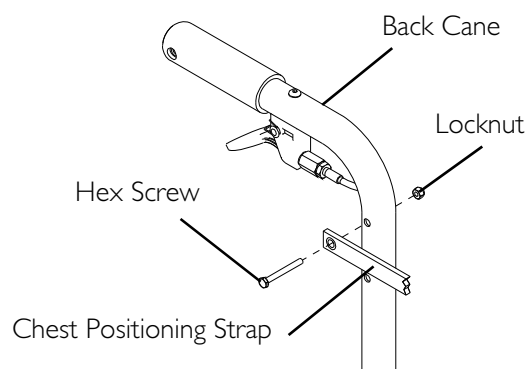

FIGURE 6.6 Installing/Replacing Chest Positioning Straps
NOTE: For this procedure, refer to FIGURE 6.6.
2. Secure the chest positioning strap to the back canes with the new/existing hex screw and locknut (FIGURE 6.6).